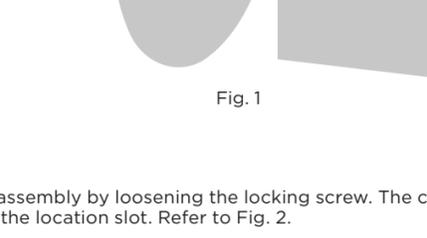

Fig. 1
2. Using the mounting template sheet or the detector itself, mark and drill the necessary holes in the wall. It is recommended to use the tamper cup on uneven wall surfaces. Refer to Fig. 1.